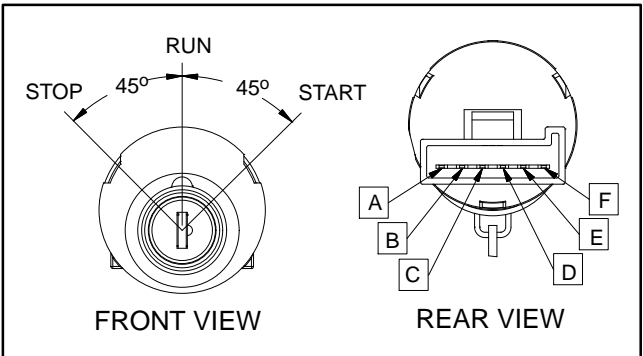

Figure 22
The ignition (key) switch is located on the control panel and has three (3) positions: STOP, RUN and START (Fig. 22). The Toro Electronic Controller (TEC) monitors the operation of the ignition switch.
**NOTE:** The engine can only be started when the functional control lever is in the NEUTRAL position and either the seat is occupied or the parking brake is engaged. Also, the TEC controller limits engine cranking time to thirty (30) seconds.
5. The ignition switch terminals are identified in Figure 22 and the circuitry of the switch is shown in the chart in Figure 23. With the use of a multimeter (ohms setting), the switch functions can be tested to determine whether continuity exists between the various terminals for each switch position. Verify continuity between switch terminals.